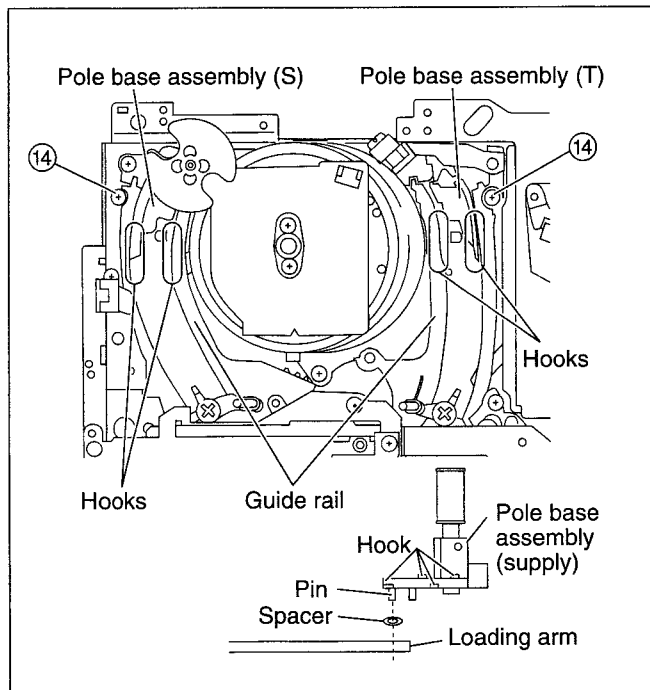

Fig. 2-3-19
① How to remove
- (1) Remove the head cleaner arm assembly. (Refer to chapter 2.3.6)
- (2) Remove the two screws ⑭.
- (3) Rotate the loading motor toward you, and shift the pole base assembly to near the loading end position. (Refer to Fig. 2-3-19.)
- (4) While releasing the hook of the pole base assembly from the guide rail and the pin of it from the loading arm, take out the pole base assembly.